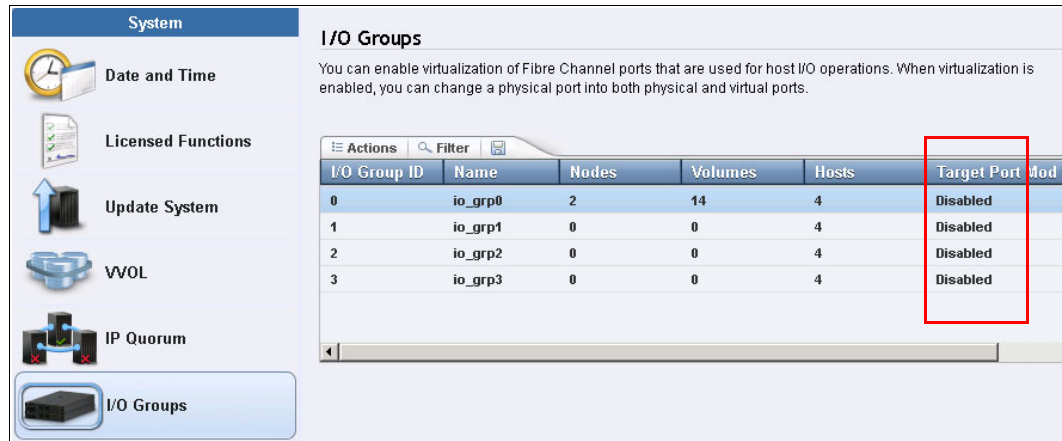

Figure 7-21 Target port mode is disabled
2. To check the current target port mode, go to the IBM FlashSystem V9000 GUI and select **Settings** → **System** → **I/O Groups**. Target port mode is disabled (Figure 7-21), which means that the Fibre Channel ports on IBM FlashSystem V9000 are physical ports, each with a WWN connecting to the SAN switches.